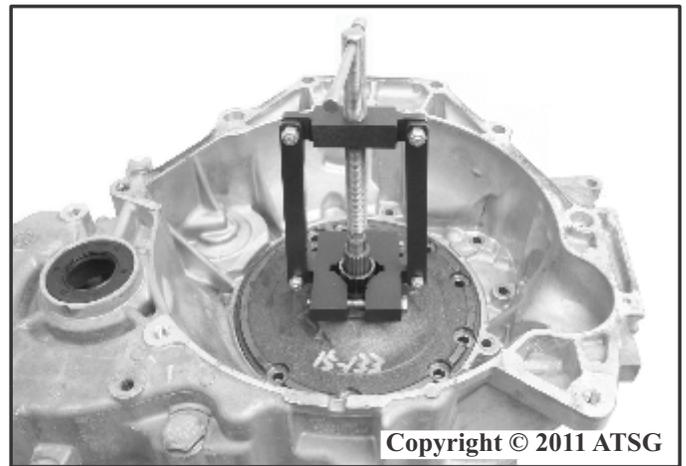

Figure 32
32. Using Universal Clamp Press J 45053 or other adequate pump pulling device, attach the clamp and carefully remove the pump assembly from the case being careful not to damage the turbine shaft as shown in Figure 32.